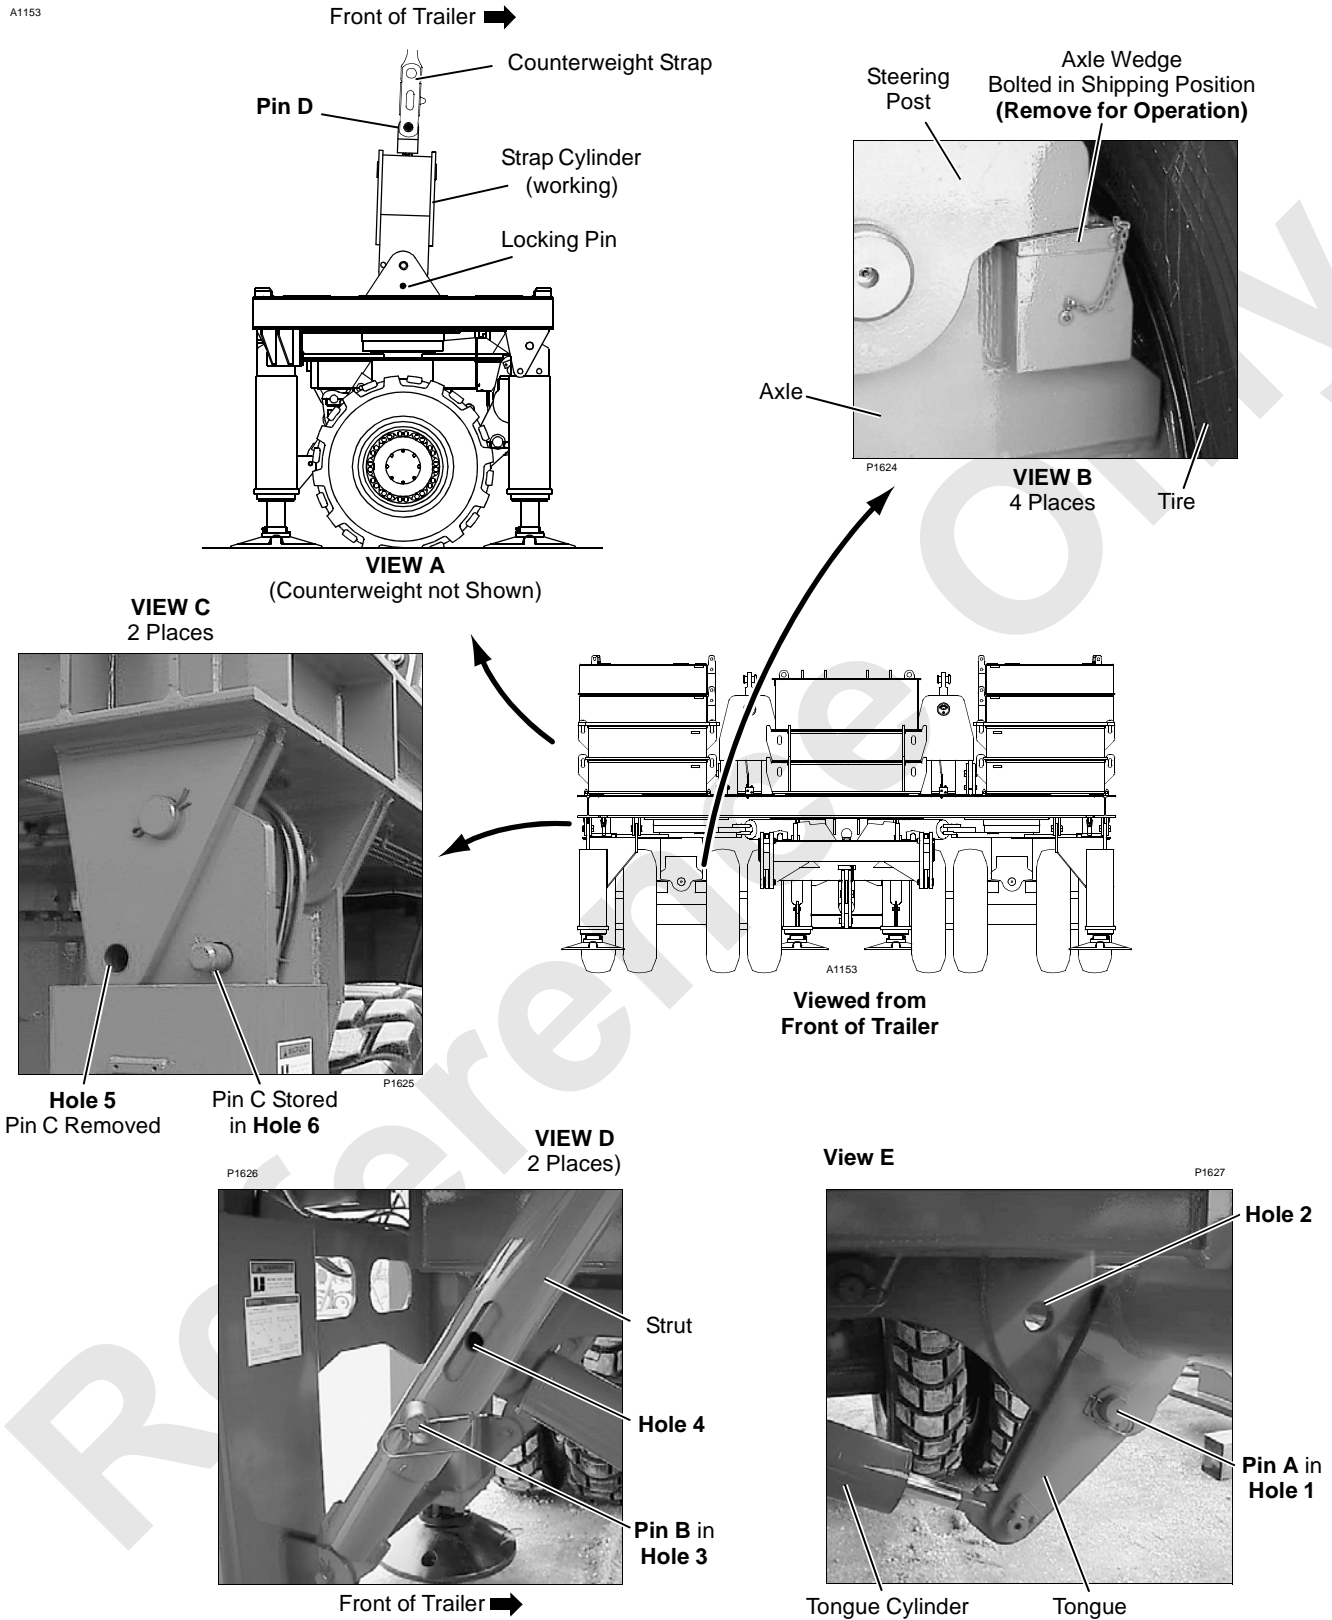

FIGURE 4-20
See Figure 4-20 for following steps.
See Figure 4-20 for remaining steps.
- e. Pin counterweight straps to strap cylinders (Figure 4-20, View B).